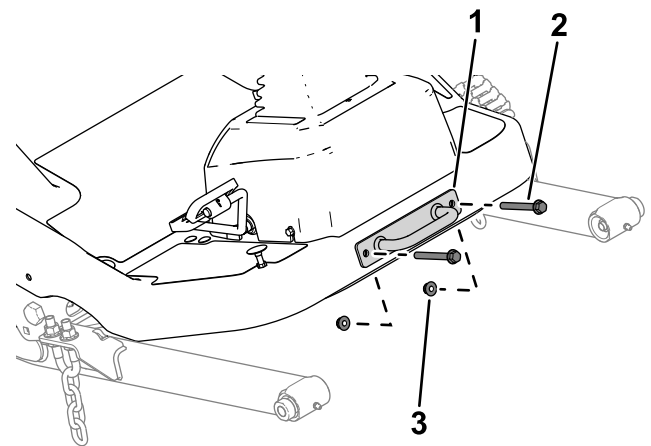

Figure 11
- 1. Remove the tie-down bracket from the platform (Figure 11).